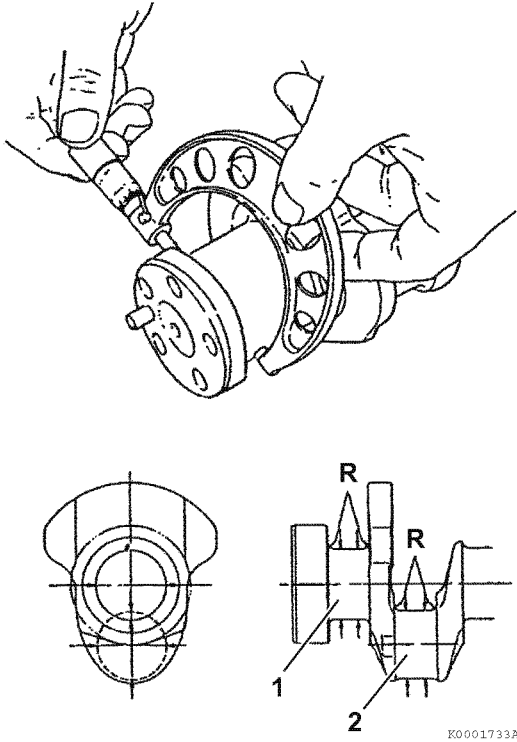

Figure 6-123
5. Measure the outside diameter of each crankpin (2, **Figure 6-123**) and main bearing journal (1, **Figure 6-123**). See *Crankshaft* on page 6-11 for specifications. Take measurements at several places around each bearing surface. If not within specification, grind the journals and install undersize bearings, or replace the crankshaft.